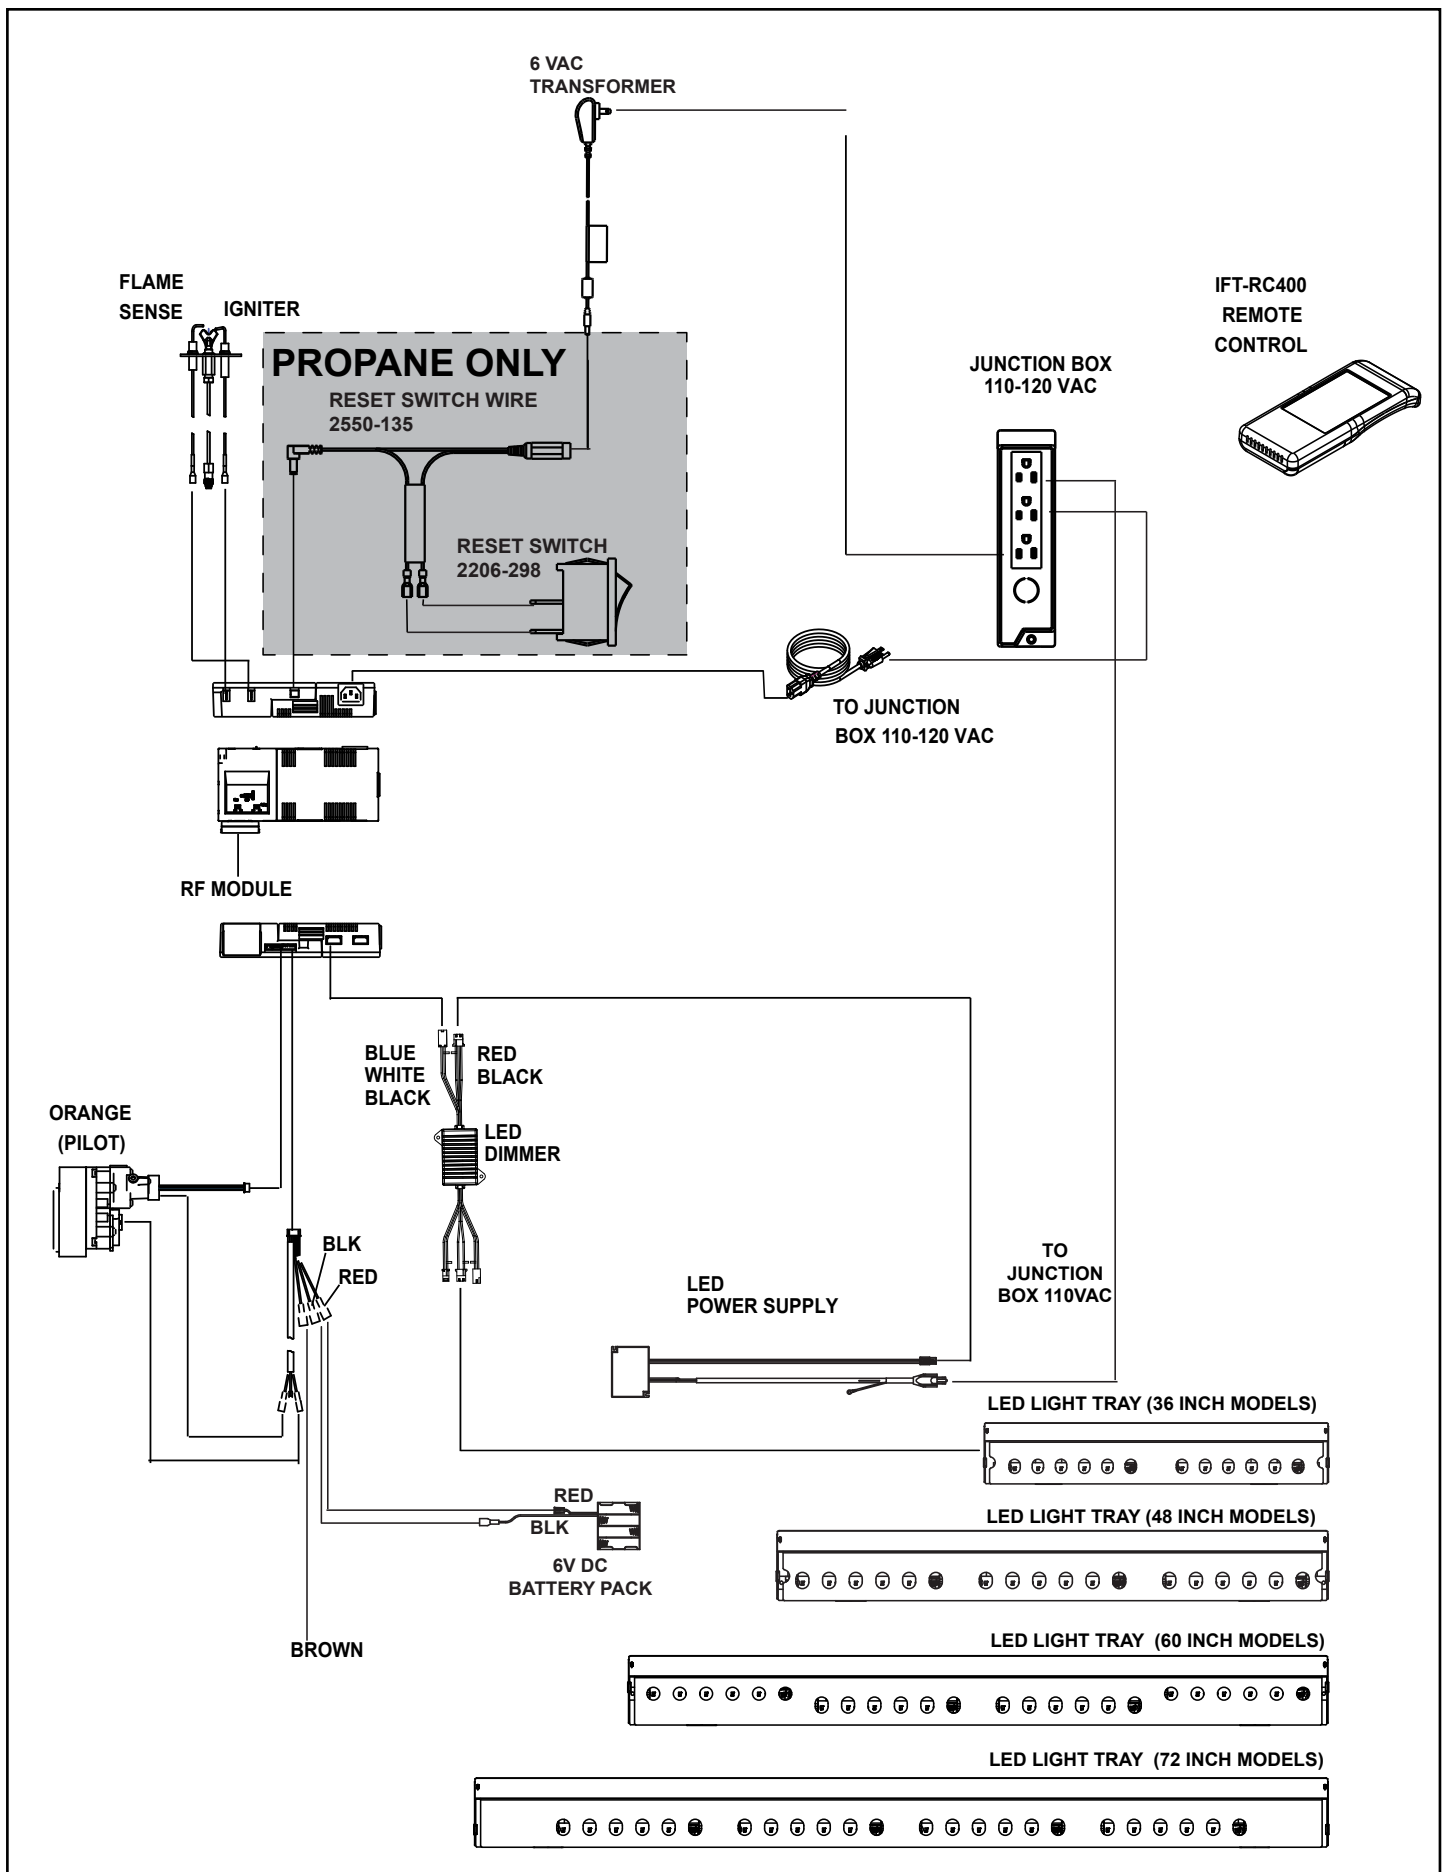

Figure 8.3 IntelliFire Touch Wiring Diagram
- Refer to Figure 8.3 IntelliFire Touch (IPI) Wiring Diagram.
The junction box, control module, LED power supply and wall switch receiver can be accessed by removing the bottom glass shield and component heat shield. The decorative barrier front must be removed to access these components. See Figure 8.3.